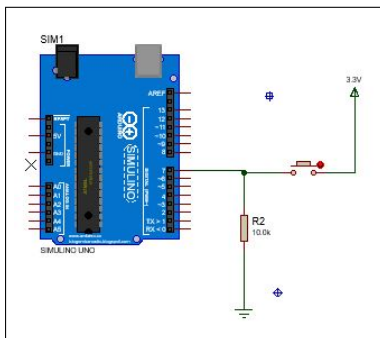

Figure 3: pull down resistor schema.
- **Pull-Down:** GPIO is connected to **GND** through a resistor (reads **LOW** by default). When pressed, the pin is connected to **Vcc** (reads **HIGH**). (see Figure 3)